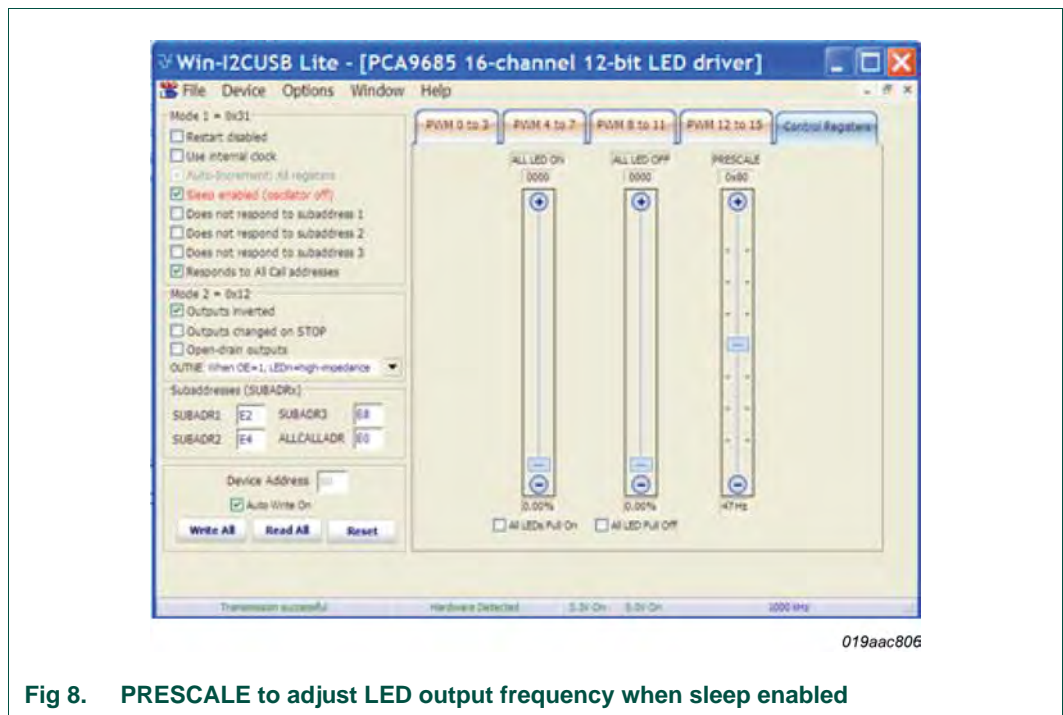

Fig 8. PRESCALE to adjust LED output frequency when sleep enabled
**Remark: The PRESCALE register value can only be set/update when the SLEEP bit in the MODE1 register is set to logic 1** as shown in Figure 8. Apply external clock input to EXTCLK pin, user must set the SLEEP bit in MODE1 register, then write logic 1 to both the SLEEP and EXTCLK bits in MODE1 register to enable the external clock.